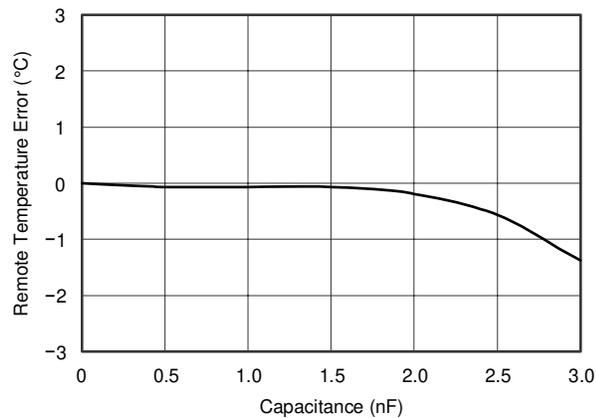
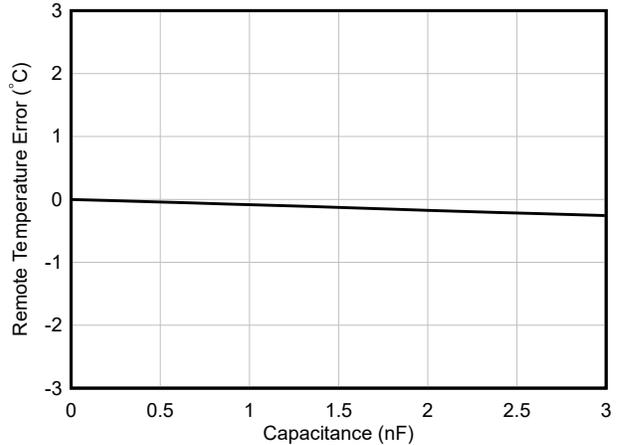

Figure 6-12. Remote Temperature Error vs Differential Capacitance (Legacy Chip)
Figure 6-13. Remote Temperature Error vs Differential Capacitance (New Chip)
- C. C_{DIFF} (optional) must be $< 1000\text{pF}$ in most applications. Selection of C_{DIFF} depends on specific application; see the Filtering section and Figure 6-12 (Figure 6-13 for new chip) and Figure 6-27.
The TMP411/TMP411D tolerates differential input capacitance of up to 1000pF with minimal change in temperature error. The effect of capacitance on sensed remote temperature error is shown in Figure 6-12 (Figure 6-13 for new chip) and Figure 6-27.